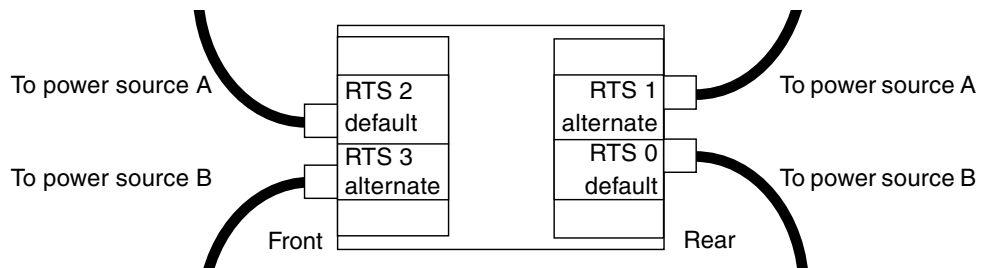

FIGURE 2-8 Two Independent AC Power Sources
- In configurations with two independent AC power sources there will be four cables to connect, two on the front, and two on the rear of the system (FIGURE 2-8).